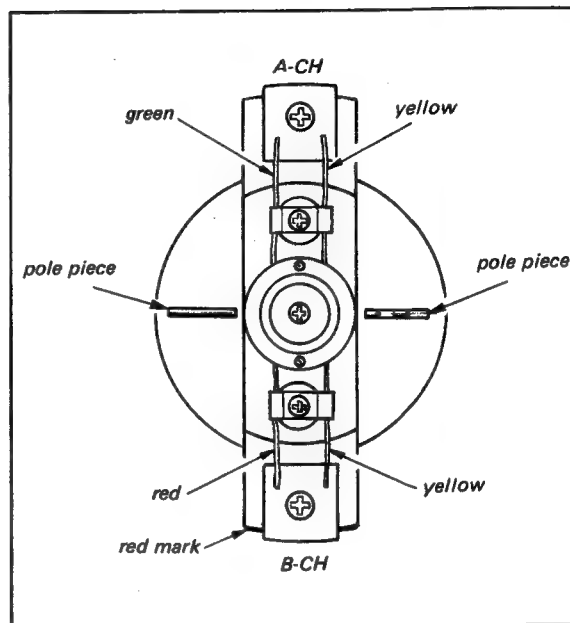

Fig. 7-8 Head mount
10. Position the platform as shown in Fig. 7-8 so that the 25 PG pole piece is at the 3 o'clock position and the 50 PG pole piece is at the 9 o'clock position.
11. Carefully place the new video head assembly on the platform with the B head at the 6 o'clock position and A head at the 12 o'clock position. See Fig. 7-8. The head assembly should fit down snugly against the platform without using force.